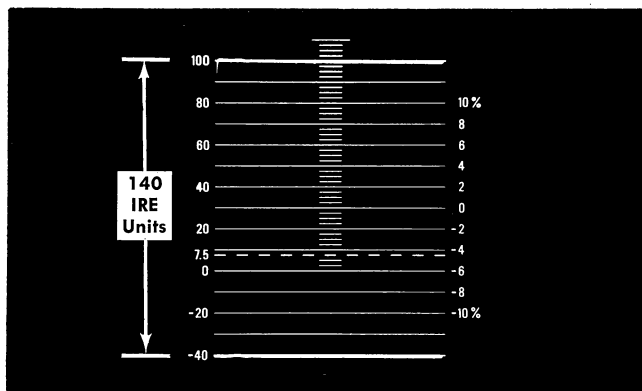

Fig. 2-14. Proper luminance calibrated test signal amplitude. Pushbuttons depressed: A CAL, FULL FIELD, $A\phi$ (not required) and Y.
12. Depress the Y button. Leave the A CAL and FULL FIELD buttons depressed. Check that the display amplitude is 140 IRE units in the vertical center area of the graticule. Overlook the starting portion of the waveform. Use the VERT POSITION and HORIZ POSITION controls to position the display for best viewing (see Fig. 2-14). To minimize parallax viewing errors, use the pupil of the eye reflected from the -40 IRE unit graticule marking to align the bottom of the waveform with the graticule marking. Next, check the position of the top of the waveform with respect to the (+) 100 IRE graticule marking by reflecting the pupil of the eye from this graticule mark.